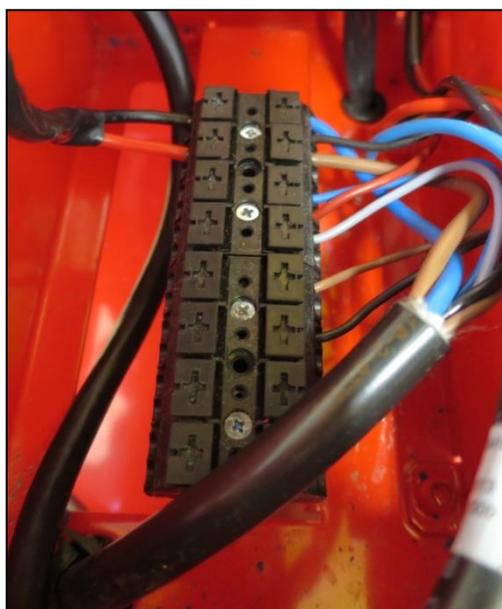

Fig.: 132
- Connect the cable of the spreading plate motor (black, red), as shown on the connection diagram (see page 23, Fig.: 48), on the left side of the terminal strip (Fig.: 132).